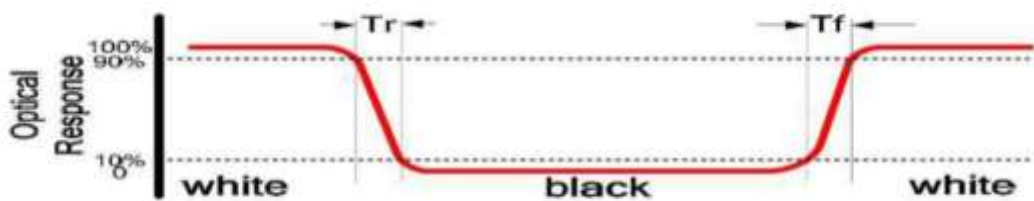

FIG2. Measuring method for Contrast ratio,surface luminance,Luminance uniformity,CIE(X,Y)chromaticity.
Note2.contrast Ratio(CR) is defined mathematically by the following formula ,For more information see FIG2.
Note5. Surface luminance is the LCD surface luminance with all white pixels,For more information see FIG2.
Note6.CIE(X,Y)chromaticity is the Center point value.For more information see FIG2. Note7.For Viewing angle and response time testing,the testing date is base on Autronic-Melchers' s ConScope.Series instruments.For contrast ratio,Surface Luminance,Luminance uniformity and CIE,the testing date is base on CS-2000 photo detector. Note8.For TN type TFT transmissive module,Gray scale reverse occurs in the direction of panel viewing angle